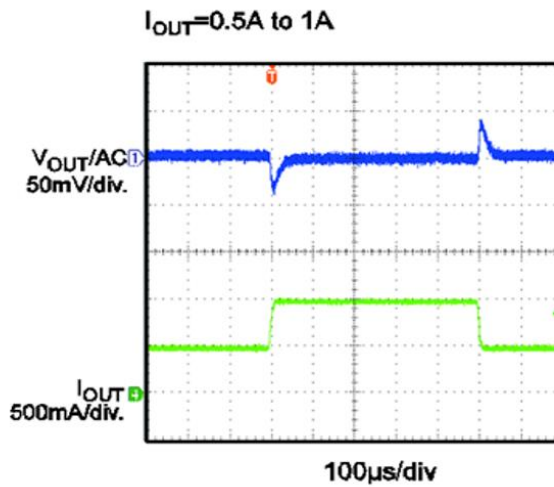

Figure 15: MP2317 Quick Load Transient Response (Test conditions: $V_{IN} = 12V$, $V_{OUT} = 5V$, $L = 10\mu H$)
- Excellent load and line regulation, as well as transient response (see Figure 15)